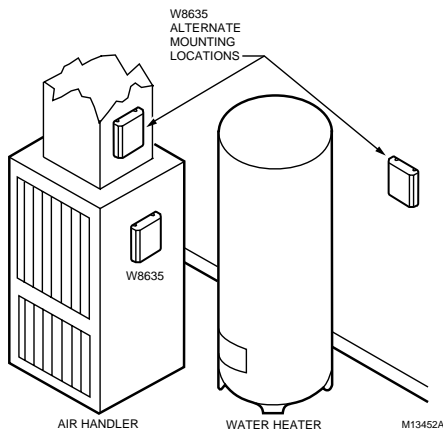

Fig. 1. Selecting W8635B Equipment Interface Module location.
1. Locate the W8635B in the equipment room near the HVAC equipment. See Fig. 1.